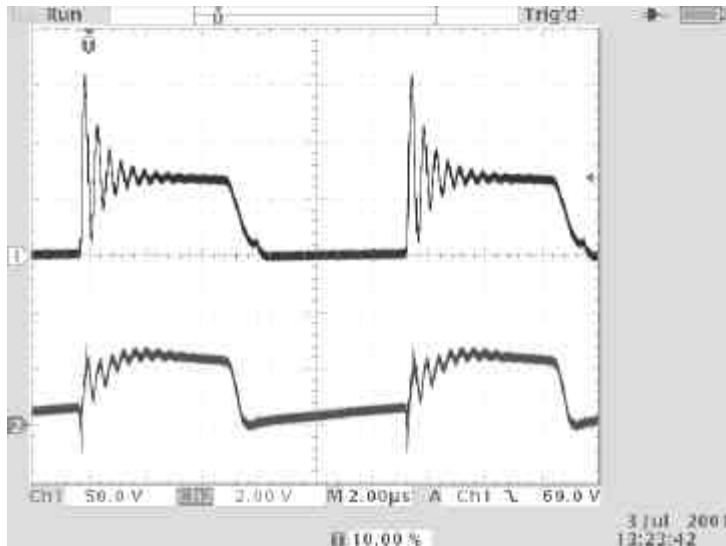
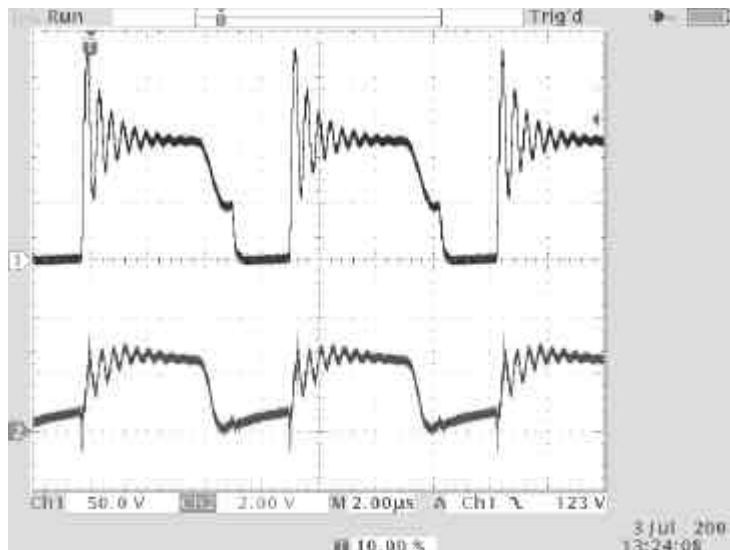

Fig 2) Drain (D) voltage of IRIS4007K (CH1) and the FB pin voltage (CH2) at 36VDC in/Full load output
Fig 3) Drain (D) voltage of IRIS4007K (CH1) and the FB pin voltage (CH2) at 72VDC in/Full load output
Fig 2) shows the drain voltage and the feedback pin (FB) voltage. In this case the quasi-resonant signal swings all the way to near zero volts at the drain before the FET is turned on, and hence under these conditions the circuit turns the FET on with near zero voltage switching, due to the quasi-resonant switching. The FB pin signal shows the current ramp when the FET is on (when the drain voltage is low), and the resonant signal being passed back during the FET off time.
Fig 3) shows the same waveforms as in fig 2) again with a full load output, but this time with a 72VDC input. Note that the operating frequency has now increased, and the effect of the quasi-resonant switching is now more pronounced. This is evident by the quarter sine wave nature of the falling edge of the drain waveform, at the bottom of which the FET is turned on, ensuring that it is turned on at the minimum possible voltage to reduce the switching losses. Note also the steeper ramp in the FB pin voltage when the FET is on which results in a shorter on time.